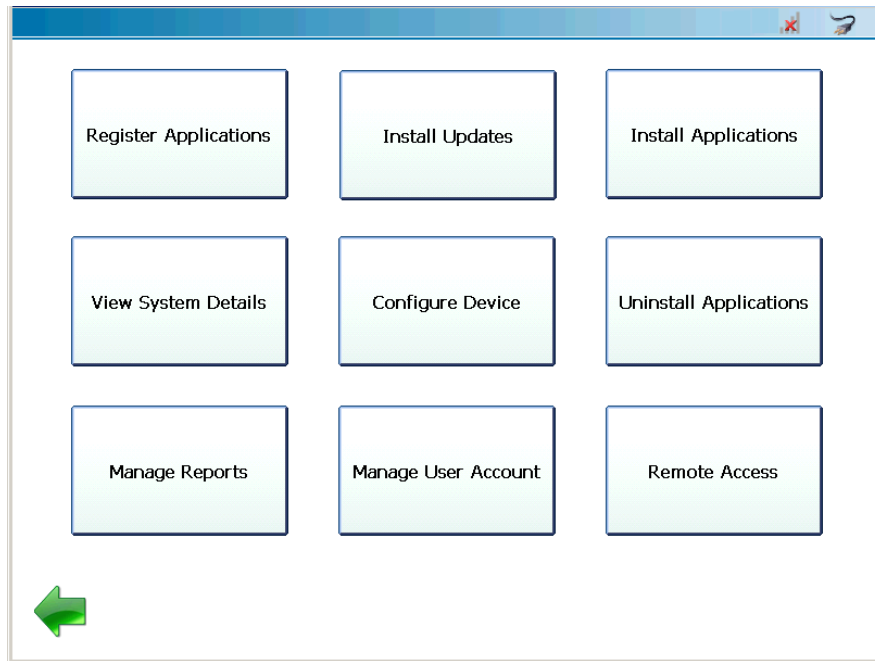

Figure 5.6 Admin Menu
- Touch **No** to return to the Admin Menu (Figure 5.6).